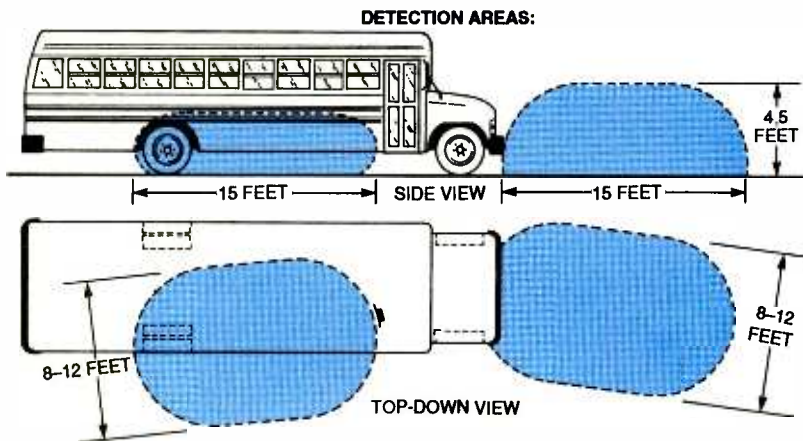

Fig. 1. Shown here are the detection areas monitored by the Forewarn two-sensor system. Note the protection corridor on the curb side of the bus.
To calibrate the generator/rotor assembly, it was mounted on a board that was, in turn placed on top of the author's van. On a windless evening, the van was driven at speeds ranging from 5 to 45 miles per hour (MPH) in 5 MPH increments. The generator's output voltages were measured at various vehicle velocities, using a high-impedance voltmeter. The measurements were recorded, and data was then statistically processed and used to develop the graph shown in Fig. 1. As shown, the generator's output voltage varied linearly from 0 to 300 millivolts (mV) over the vehicle's speed range (0 to 45 mph).
Fig. 1. The generator/rotor assembly was mounted on top of the author's van, which was driven at speeds ranging from 5 to 45 miles per hour (mph) in 5-mph increments on a windless evening. The generator's output voltages—measured at various vehicle velocities, using a high-impedance voltmeter—were recorded, and the data was used to develop this graph.
**Obstacle Detection.** The Forewarn detection system makes a child's school-bus ride a bit safer. Forewarn was developed by Delco Electronic Corporation, a subsidiary of General Motors' Hughes Electronics. It uses two microwave radar units (see Fig. 1) to detect a child who might be in front of the bus and beside or underneath the